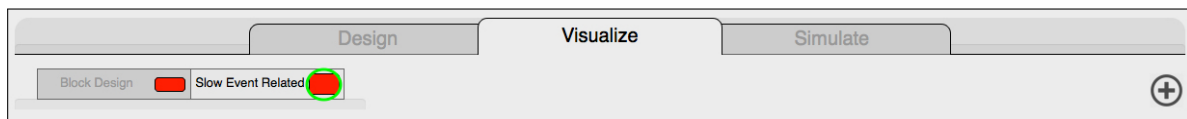
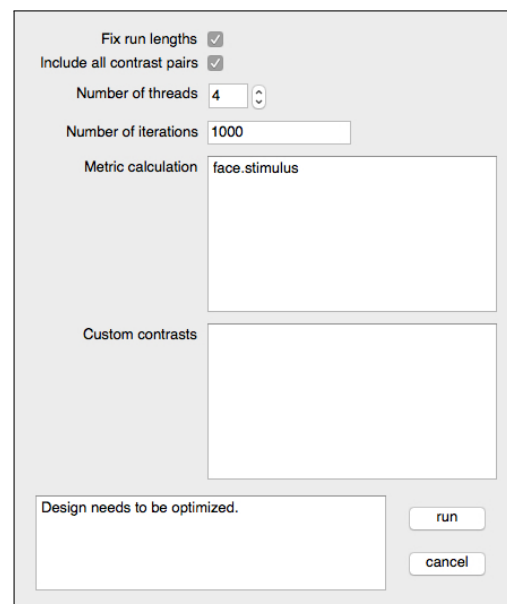

Figure 24: How to optimize
Figure 25: Optimization window
1. Click on the **red** box of the design you wish to optimize (Figure 24, **green** circle) - this will open the optimize window (Figure 25).